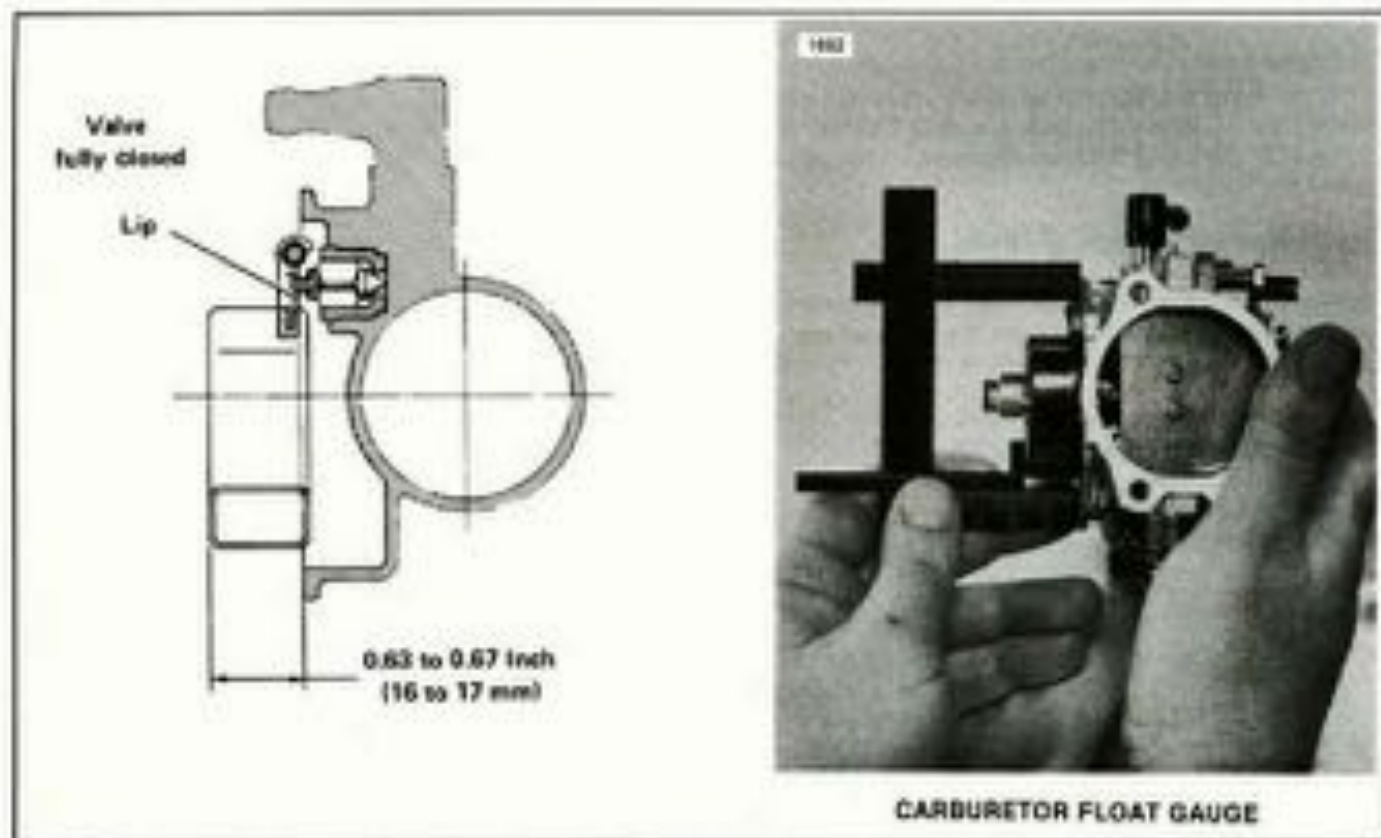

Figure 4-14. Float Adjustment
3. See Figure 4-14. Hold carburetor on its side so that the float will be suspended, from the float pin, in a vertical position. Use FLOAT LEVEL GAUGE, Part No. HD-94762-77 and measure the distance from the face of the bowl mounting flange to the bottom surface of the float. If the measurement is not within the specified limits, bend the metal valve actuator lip up or down a slight amount to give the correct setting.
2. See Figure 4-14. Turn the gas valve off. Disconnect the fuel hose (1), throttle cable(s) (2) and choke cable (3) from the carburetor.